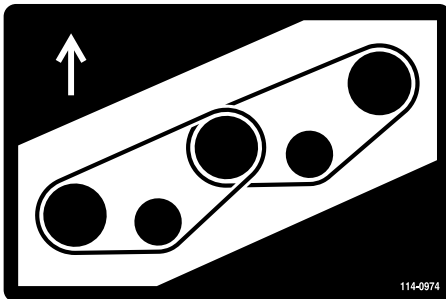
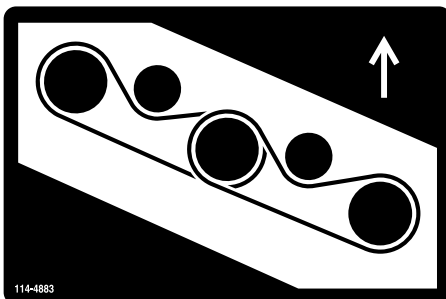

Figure 118
Figure 119
7. Route the new belt around the spindle pulleys and idler-pulley assembly (Figure 118 and Figure 119).